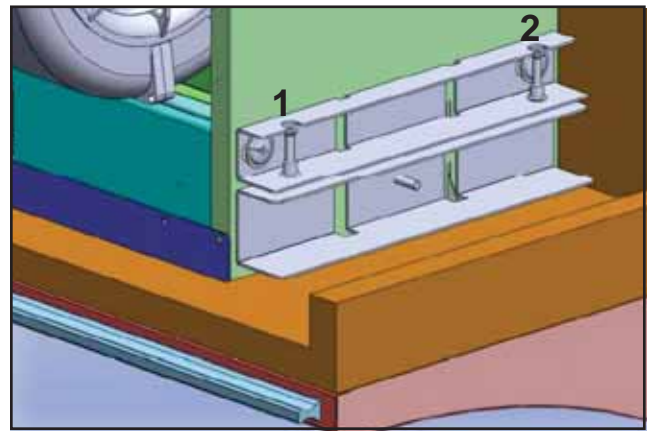

Fig.8
- 7) Install (2) 3/16x40 screws into the captive nuts of each upper installation bracket. Tighten screws to adjust the height of range hood until there is no gap between the cabinet bottom and front edge of hood, Fig.8. After hood is positioned, fully tighten the lower installation bracket screw from step 6, Fig.7-1.